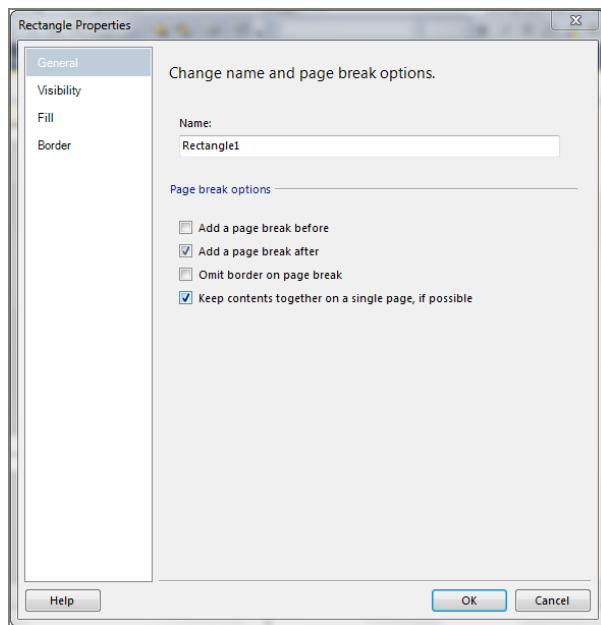

Figure 4-1
4. Now configure the rectangle to force a page break. Right-click the rectangle and select Rectangle Properties. There are two options: one for adding a page break before and one for adding a page break after. After you have made your selection, click OK (see Figure 4-1) and preview your report.